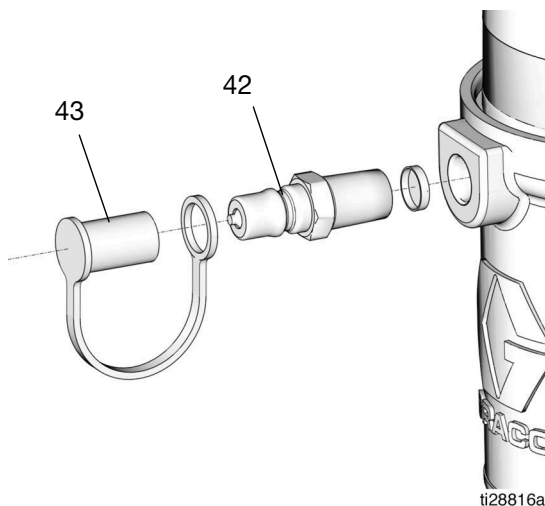

FIG. 10
5. Remove fill cap (43), then use a wrench to loosen and slowly remove the fill stud (42). (FIG. 10).